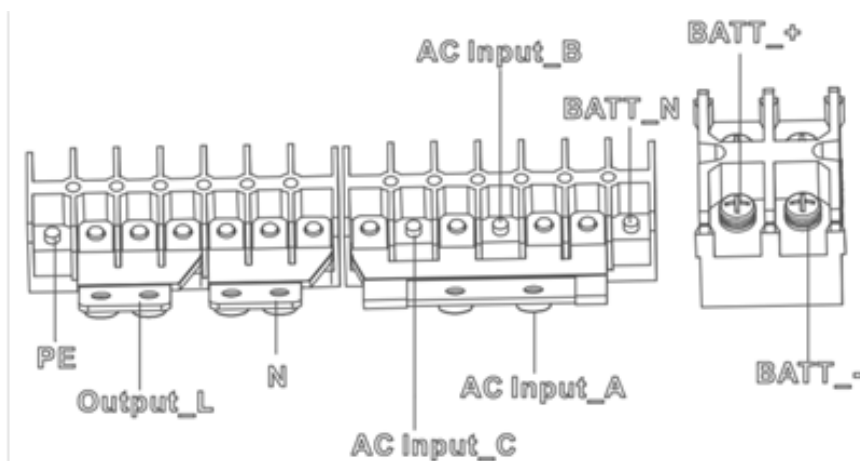

Figure 1-12 3-phase in and 1-phase out, common input
4. Connect the PE cable to the PE terminal of the UPS, as shown in Figure 1-12.
IP3 5-6 pins are the generator connection status interface. Connect pin 5 of IP3 to the +24V power supply, indicating that the generator has been connected to the system. The interface diagram is shown in Figure 1-12, and the interface description is shown in Table 1-7.